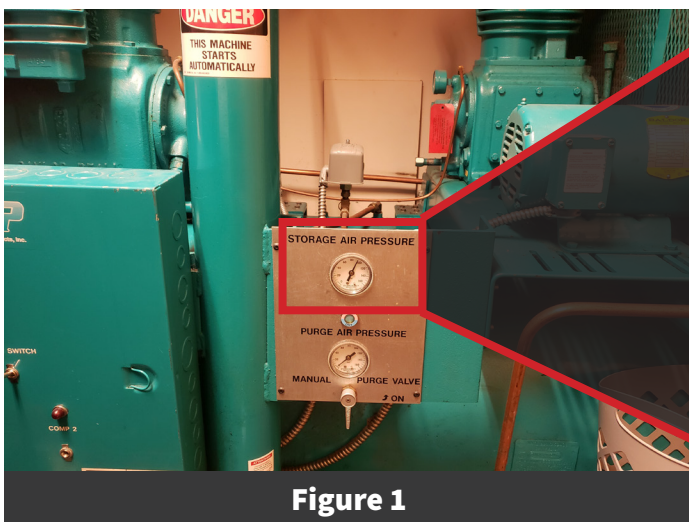
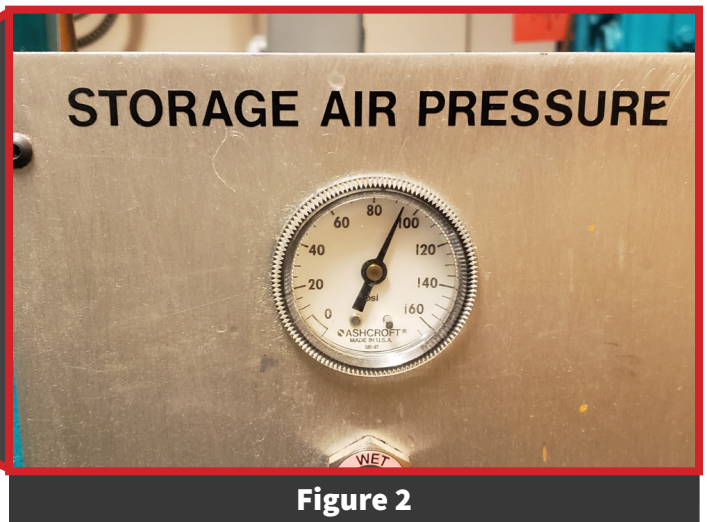
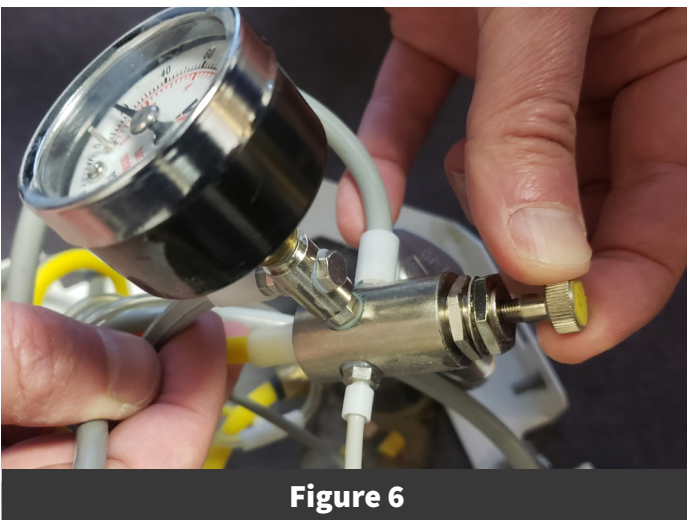
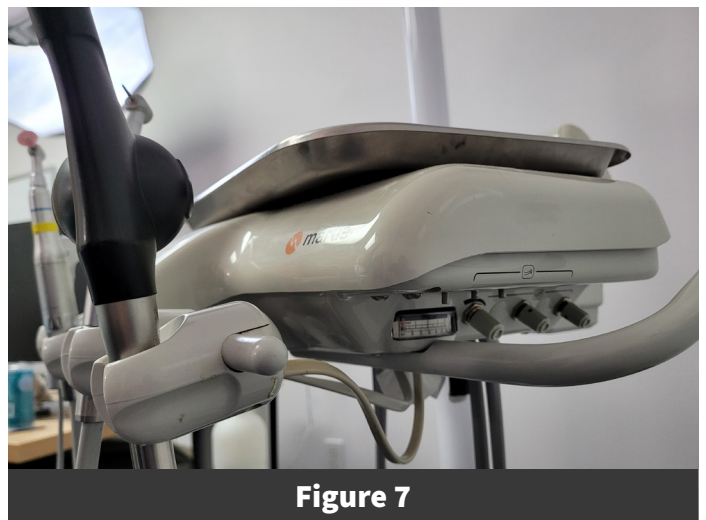

Figure 1
Figure 2
Figure 6
Figure 7
Compressors have a reserve tank where compressed air is stored (figure 1), and when the maximum pressure level is reached the compressor turns off (ideally 110 PSI). The compressor turns on when the minimum threshold is reached (typically 90 PSI) (figure 2). However, the native air pressure from the compressor is often limited down the line at the control box (figures 3 & 4) regulator (figure 6) or the restrictors on the hand-piece controls in the delivery system (figure 7).
Step 3: Be reminded that there will normally be a “regulator” for water, which need not be adjusted. Twist the knob on the air regulator to the right until the maximum air pressure is achieved (from 90 to 110 PSI) (figure 6).
Step 5: Delivery system: Find the restrictor knob dedicated to the hose connection you will use for the Bioclear Blaster. Turn it all the way to the left to maximize air pressure to the Bioclear Blaster (figure 7).